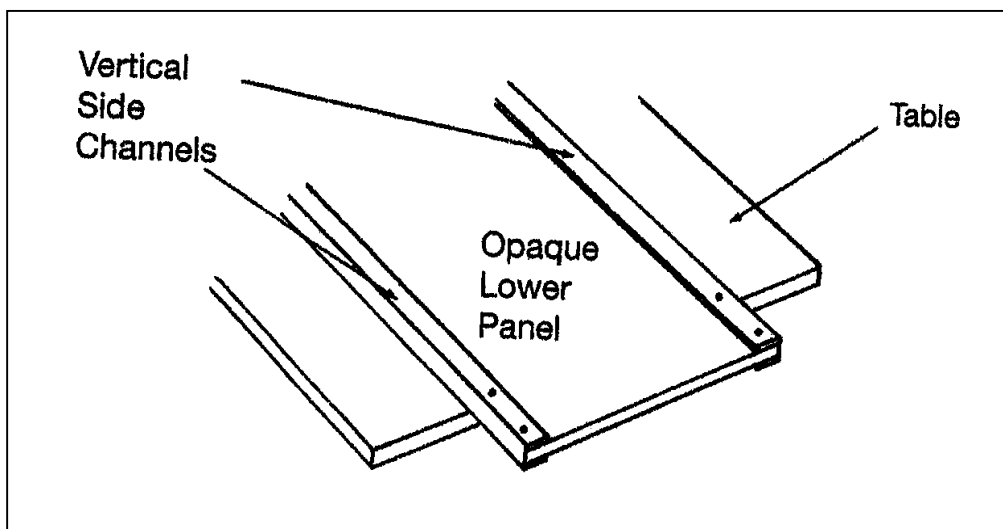

Figure 2-1. Caster Brackets Assembly
- 2.1.1 To facilitate installing the caster brackets, lay the opaque lower panel flat on a table with the mounting holes extending over the table's edge (see Figure 2-1).